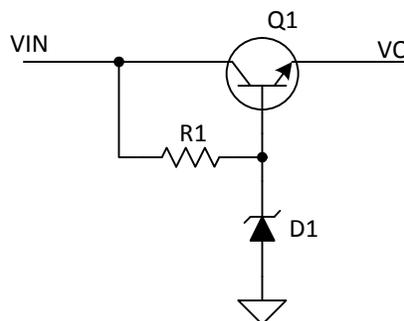

Figure 1: Simplest possible series regulator (open-loop)
Figure 1 illustrates the simplest possible series regulator. The circuit is simply an emitter follower (i.e. common-collector) amplifier with a fixed low-impedance DC voltage on the base. Thus, the output voltage at the emitter will be the base voltage minus an approximate 0.65 volt base-emitter forward diode drop. This circuit has been often used in a variety of equipment because of its simplicity. It is not capable of holding the output voltage to the exactness of a closed loop controller but its performance is sufficiently good for many applications.
voltage reference formed by the shunt regulator,  $R_1$  and  $D_1$ . The three transistors and  $R_2$  and  $R_3$  form a high gain amplifier that is a very simple version of an operational amplifier – note the + and – signs in the circuit indicating the non-inverting and inverting inputs. The base of  $Q_2$  is the non-inverting input, the base of  $Q_3$  is the inverting input and the emitter of  $Q_1$  is the output.  $R_2$  is the collector resistor for  $Q_3$  and  $R_3$  sets the emitter currents of  $Q_2$  and  $Q_3$ . The feedback network is the voltage divider,  $R_4$  and  $R_5$ . Observe that this arrangement is identical to a standard non-inverting operational amplifier circuit and the output voltage would be  $V_{ref} * (1 + R_4/R_5)$ . Thus, if  $V_{ref}$  were 5.1 volts and  $R_4$  and  $R_5$  were the same value then the output voltage would be 10.2 volts. The output capacitor,  $C_1$ , serves several purposes – it may be required for high frequency stability, it improves the transient response of the regulator to a rapidly changing load, it reduces the high frequency source impedance of the regulator, and it lowers electronic noise that might be superimposed on the output DC voltage. As in the circuit in Figure 1 the power dissipation of  $Q_1$  may be significant so thermal design is required.
The circuits in Figures 1, 2 and 3 are about as simple as can be built. Refinements to the circuit would include:
2. In Figure 1 if  $V_{IN}$  were 15 volts and  $V_O$  was 10 volts and the load current was 50 millamperes, what would the power dissipation of  $Q_1$  be? (answer: 0.25 watts)